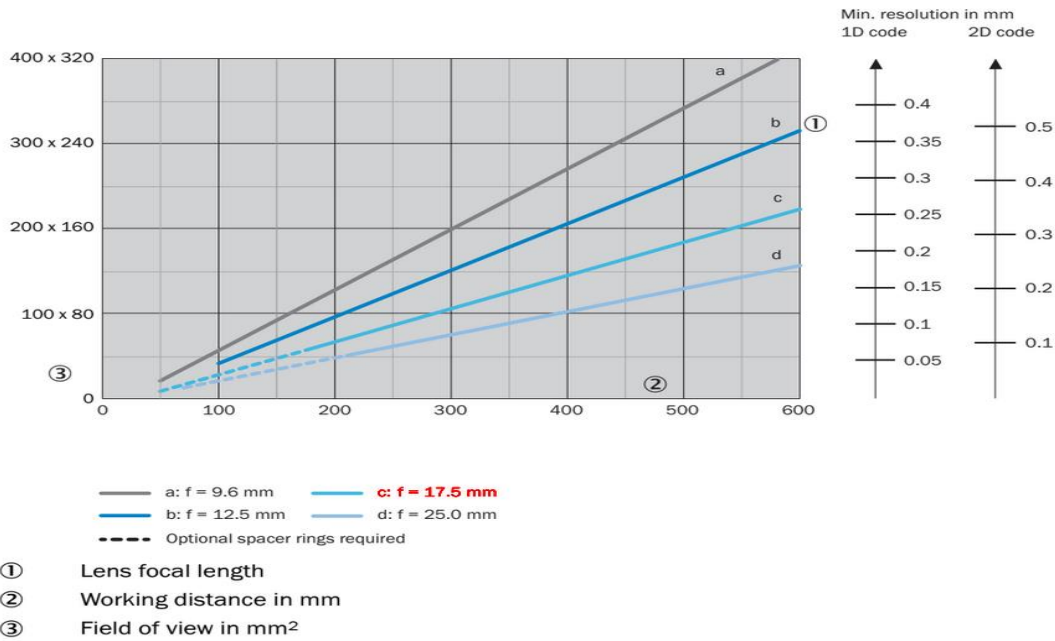

Fig 15. Minimum code resolution at different working distances with highlighted default option
- **Problem 4b:** Code resolution does not match camera operating range. The code reader has an operating area of code smallest item size relative to distance. Please refer to Fig 15 to determine the minimum code resolution that works at the set working distance. To determine the resolution of the code, measure the smallest element on the code, preferably with a caliper. The smallest element refers to the thinnest black or white line on a 1D code or the size of a single square, referred to as module after this, on a 2D code.
Understanding Fig 15
In order to determine the maximum working distance for a given code, measure its resolution. In Fig 15 code resolutions are shown on the righthand y-axis. Extrapolate from the measured resolution value to the line depicting the working area of the selected lens. The x-co-ordinate where these lines intersect indicates the minimum working distance for that resolution.